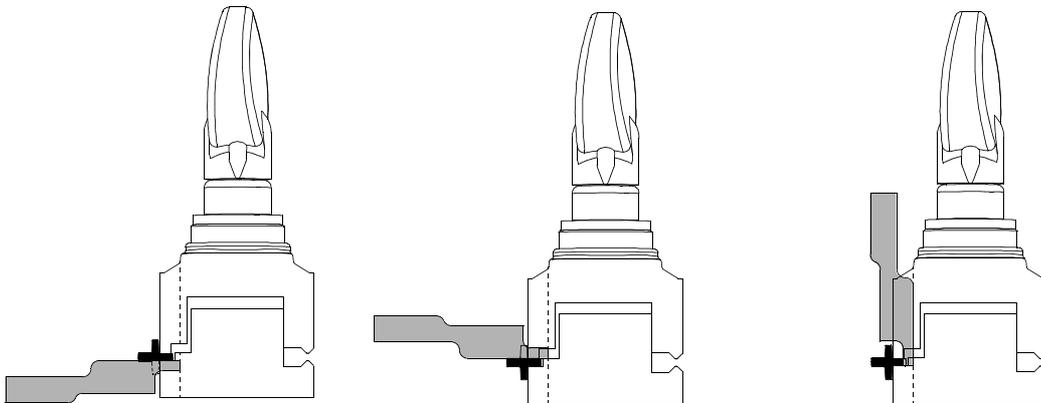

Fig. 15
The bars provided are used for cutting pin keys and as a tip rest for locking keys with no stop (fig. 15).
- 3) Butt the key stop against the bars (fig. 15).
The bars can be used with keys which have no stop (fig. 15). Proceed as follows: